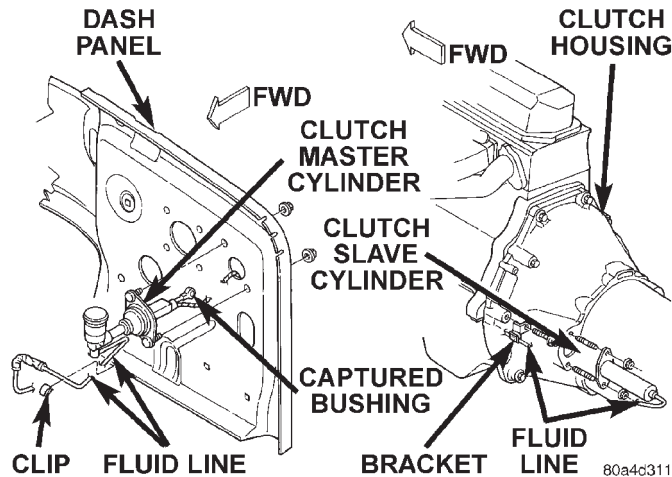
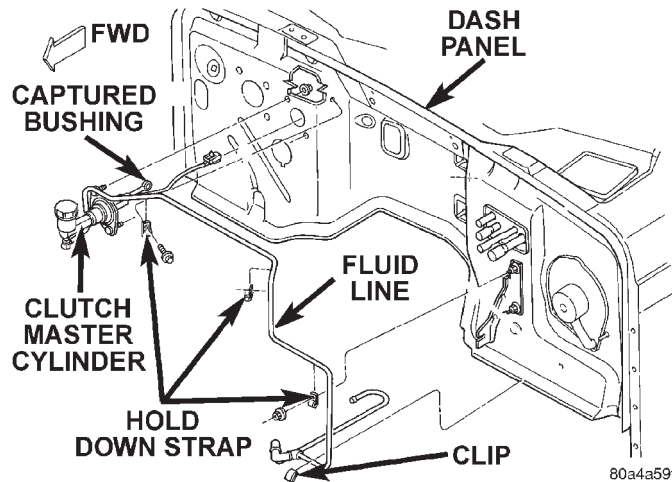

Fig. 9 Slave Cylinder and Left Hand Drive Clutch Master Cylinder
Fig. 10 Right Hand Drive Clutch Master Cylinder
(2) Remove fasteners attaching slave cylinder to clutch housing.
(3) Remove slave cylinder from clutch housing (Fig. 9).
(4) Disengage clutch fluid line from body clips.
(5) Lower vehicle.
(6) Verify that cap on clutch master cylinder reservoir is tight. This is necessary to avoid spilling fluid during removal.
(7) Remove clutch master cylinder attaching nuts (Fig. 9) or (Fig. 10).
(8) Disengage captured bushing on clutch master cylinder actuator from pivot pin on pedal arm.
(9) Slide actuator off pivot pin.
(10) Disconnect clutch interlock safety switch wires.
(11) Remove clutch hydraulic linkage through engine compartment.
(1) Be sure reservoir cover on clutch master cylinder is tight to avoid spills.
(2) Position clutch linkage components in vehicle. Work connecting line and slave cylinder downward past engine and adjacent to clutch housing (Fig. 9) or (Fig. 10).
(3) Position clutch master cylinder on dash panel (Fig. 9) or (Fig. 10).
(4) Attach clutch master cylinder actuator to pivot pin on clutch pedal.
(5) Install and tighten clutch master cylinder attaching nuts to 38 N·m (28 ft. lbs.) torque.
(6) Raise vehicle.
(7) Insert slave cylinder push rod through clutch housing opening and into release lever. Be sure cap on end of rod is securely engaged in lever. Check this before installing cylinder attaching nuts.
(8) Install and tighten slave cylinder attaching nuts to 23 N·m (17 ft. lbs.) torque.
(9) Secure clutch fluid line in body and transmission clips.
(10) Lower vehicle.
(11) Connect clutch interlock safety switch wires.